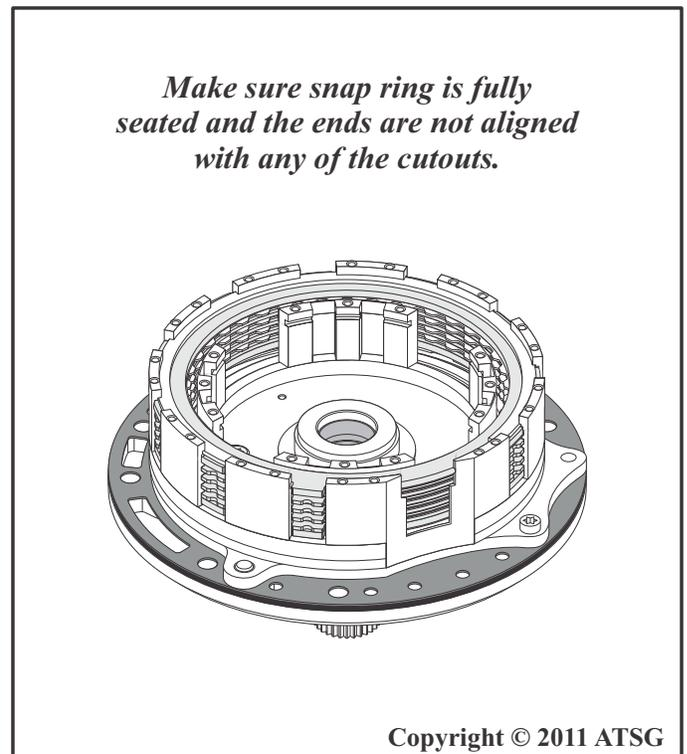

Figure 109
49. Make sure the Retaining Snap Ring is fully seated and the ends not aligned with any of the cutouts as shown in Figure 109.